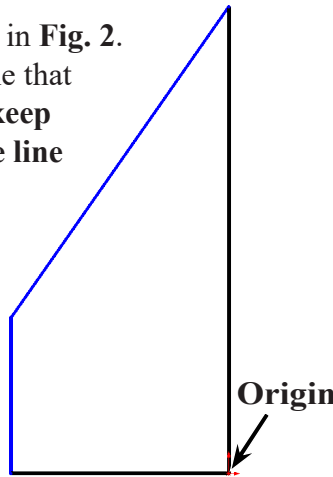

Fig. 2
Step 4. Starting at the Origin  sketch lines in **Fig. 2**. Use the inferencing line, the dotted line that appears when you sketch the lines to **keep bottom line horizontal and right side line vertical**. Do not add any extra lines.